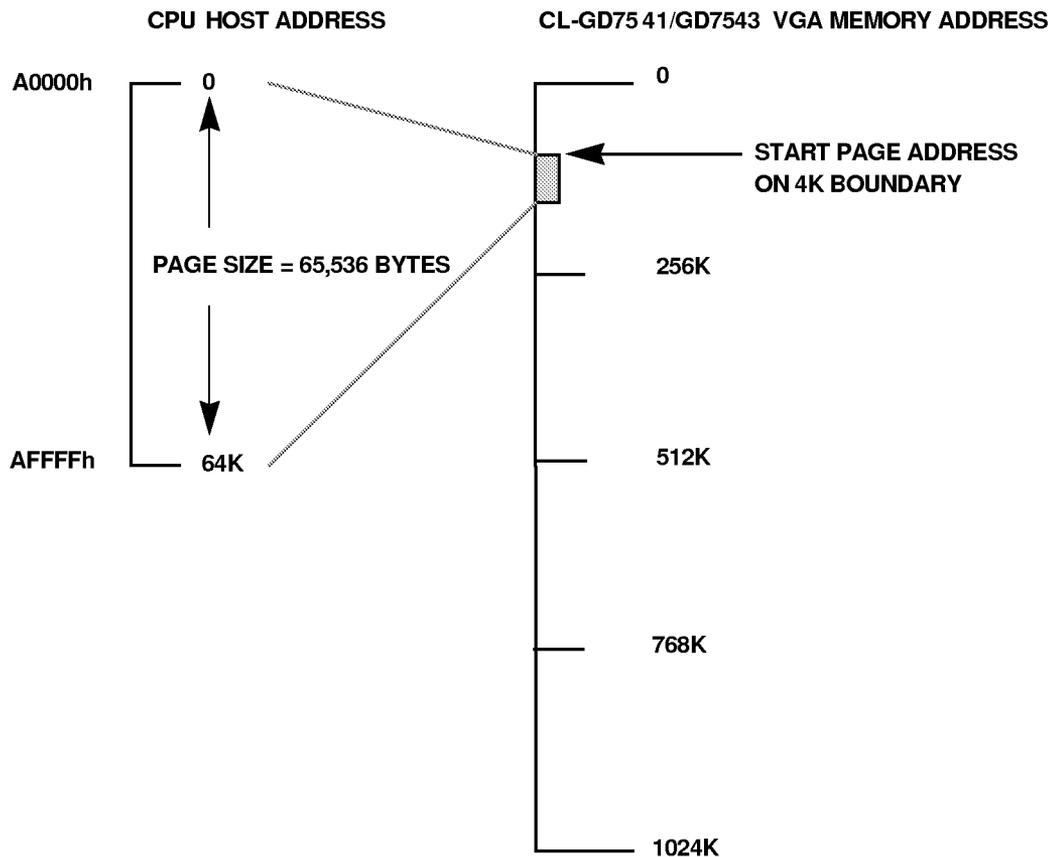

Figure K-7. Single-Page Address Mapping Technique
- 1 Single-page address mapping extends the address space for video display memory. As shown in Figure K-7 below, and as described in this section, single-page address mapping allows the following actions :